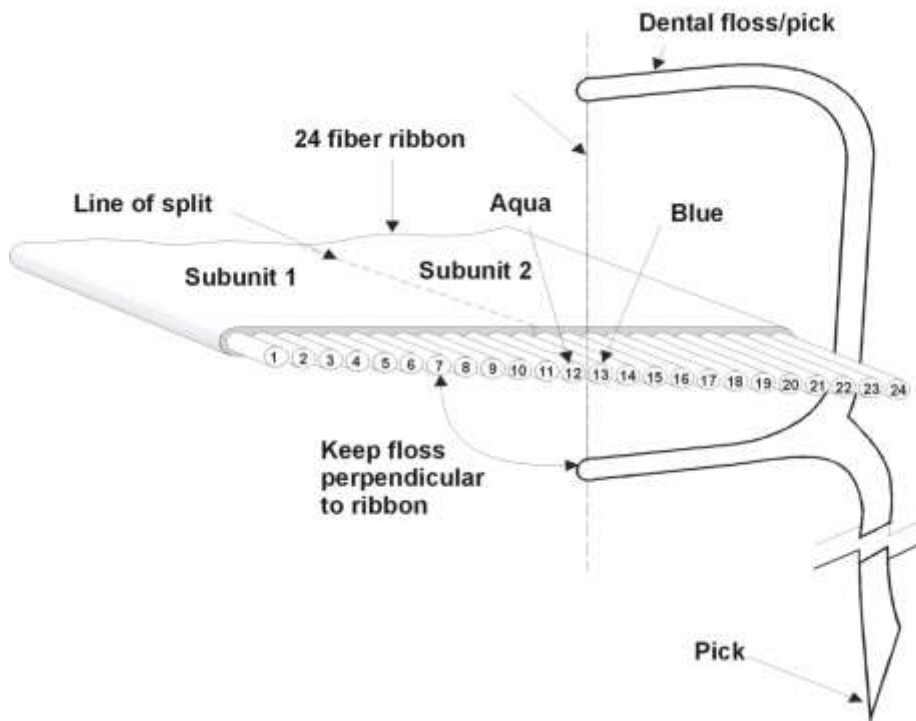

Figure 1. Splitting 24-fiber *AccuRibbon* using a dental floss pick.
- 2.3 Slightly open the flared end of the ribbon between the aqua (12) and blue (13) fibers and insert the dental floss between them (see Figure 1). Hold the floss perpendicular to the ribbon surface and slide it through the midline of the ribbon to the desired separation length.